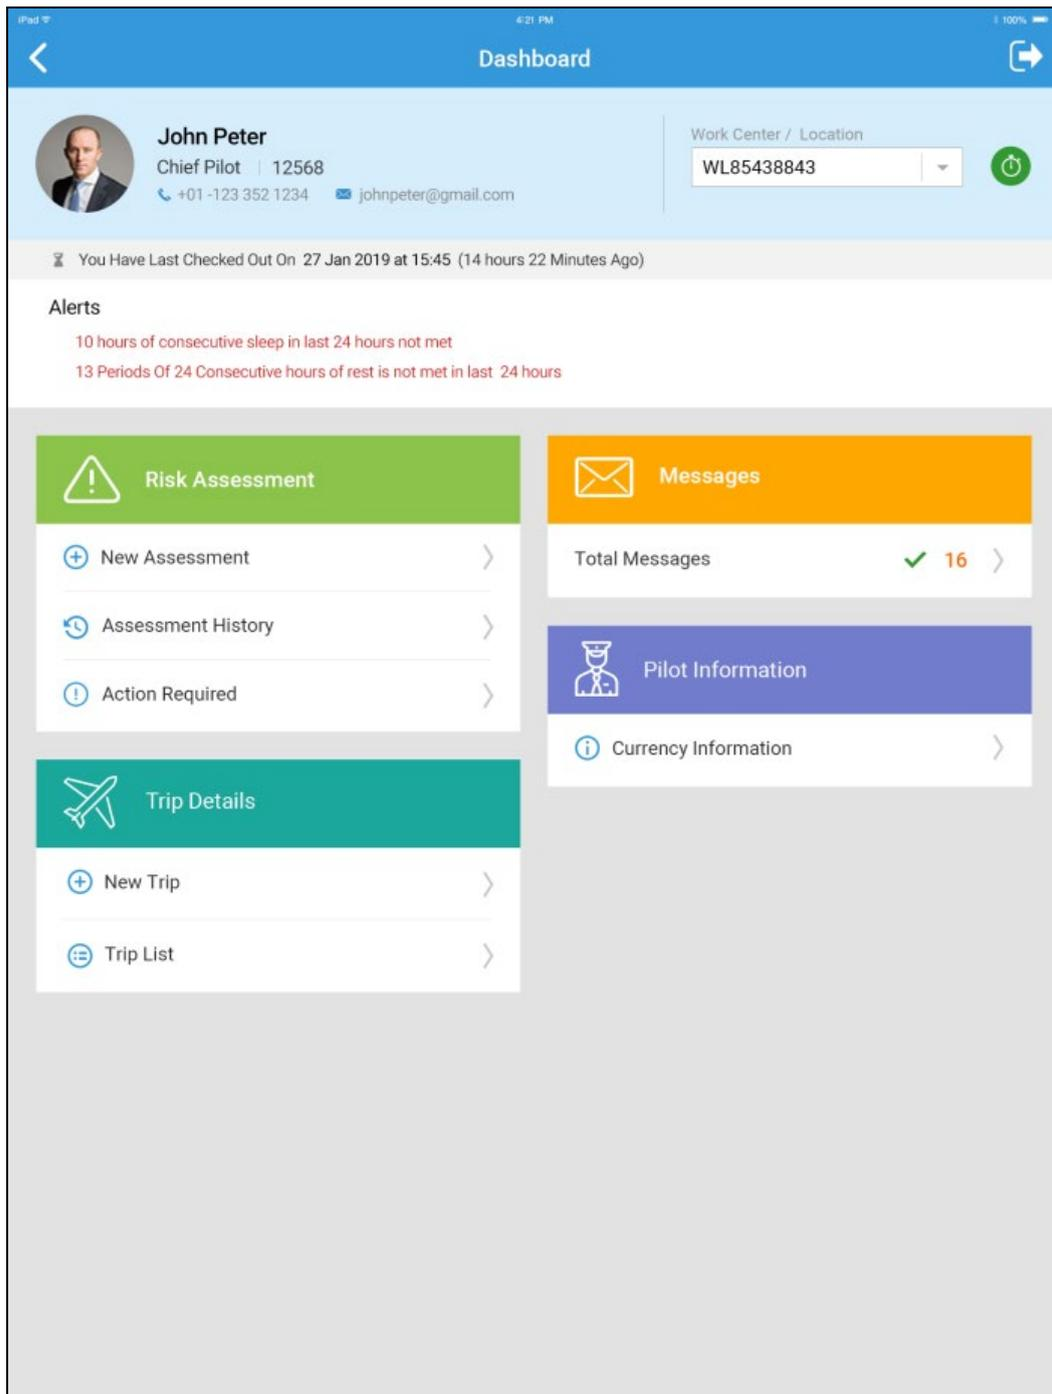

Figure 4.3: The Dashboard screen
1. Select the work center from the **Work Center / Location** drop-down list box. *See Figure 4.3.*